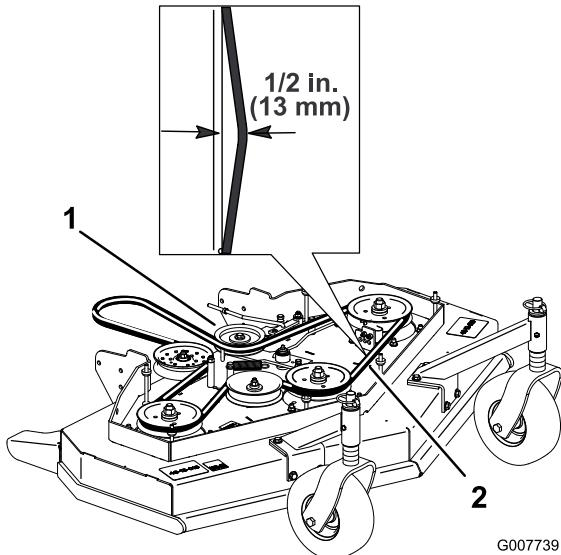

Figure 43
4. Remove the idler pulley and the worn belt (Figure 43).
**Note:** The proper mower belt tension is 10-15 lbf. (44-67 N) with the belt deflected 13 mm (1/2 inch) halfway between the pulleys (Figure 43).